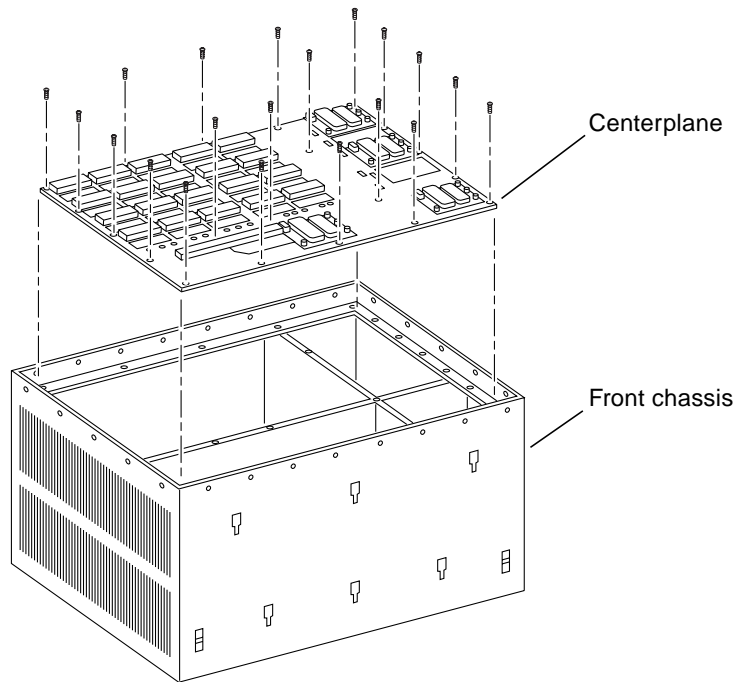

FIGURE E-18 Centerplane Replacement Detail
3. Remove the screws that hold the centerplane to the front chassis (FIGURE E-18).